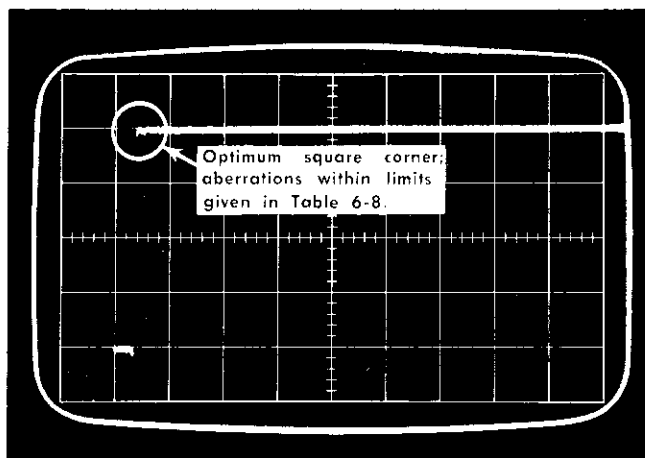

Fig. 6-27. Transient response waveform, step 6.
e. Set the Oscilloscope TIME/DIV to .1 μs and adjust the triggering and position controls as necessary to provide a presentation as in Fig. 6-27.
f. CHECK and ADJUST—Transient response of a 4 division square wave at each setting of the mVOLTS/DIV switch in the sequence listed in Table 6-8. Optimum squareness should exist at the upper left corner of the square wave. Use Fig. 6-27 as a reference. Adjustment locations are shown in Fig. 6-28.